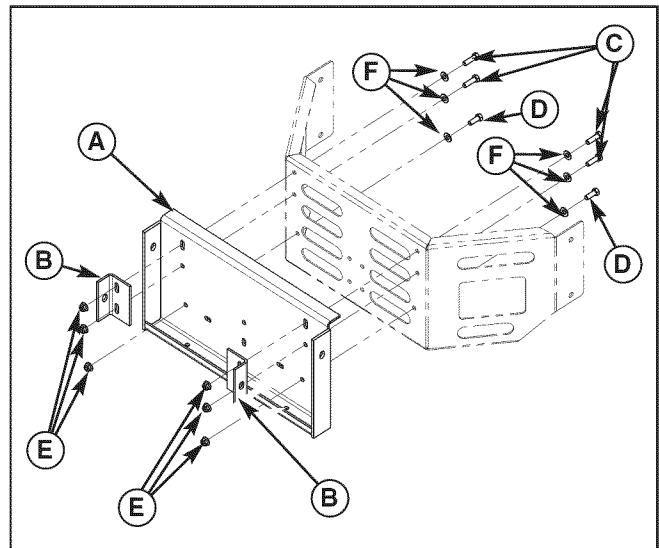

Figure 40. Install Collector Mount Plate
2. Install the collector mount plate (A, Figure 40) and mount tabs (B) on to the bumper. Install the 3/8-16 x 1-1/4" bolts (C) and 3/8" SAE washers (F) through the mount tabs and loosely secure with the 3/8-16 nylock flange nuts (E).
3. Install the 3/8-16 x 1" bolts (D) and 3/8" SAE washers (F) through the bottom mounting holes and loosely secure with the 3/8-16 nylock flange nuts (E).